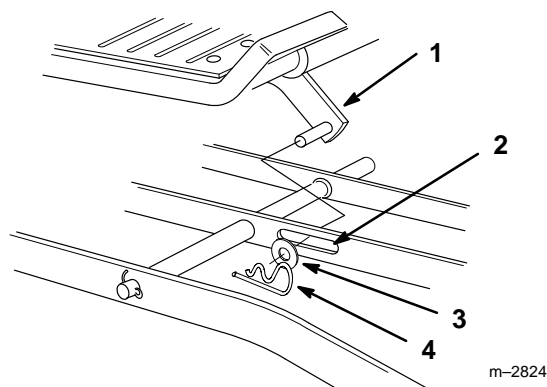

Figure 16
11. Remove hairpin cotter and washer from attachment lift pin from slot in center lever bar (Fig. 16).